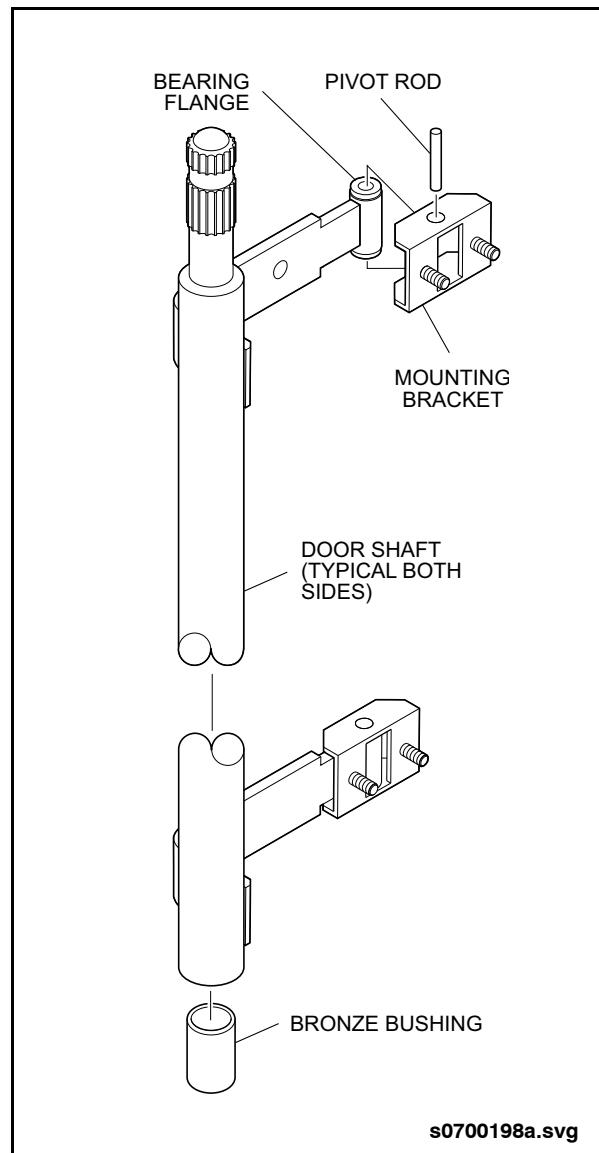

Fig. PM-52: Exit Door Shaft
- The upper and lower hinged mounting brackets attach the door shaft and arm assembly to the exterior side of the door panel. A lubrication fitting is provided on the hinged mounting bracket to allow lubrication of the flanged bronze bushing from the exterior of the vehicle. See "Fig. PM-52: Exit Door Shaft" on page 107. Check door shaft and arm assemblies for any evidence of bending, twisting, or other physical damage. Repair or replace damaged door shaft and arm assemblies as required.